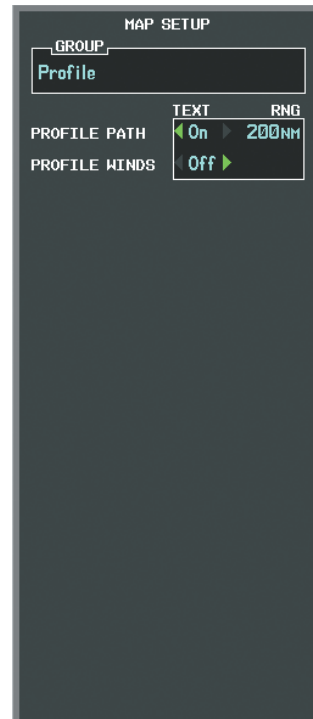

Figure 6-71 Navigation Map Page Setup Menu, Profile Group
- 5) Turn the large **FMS** Knob or press the **ENT** Key to scroll through product selections (Figure 6-71).